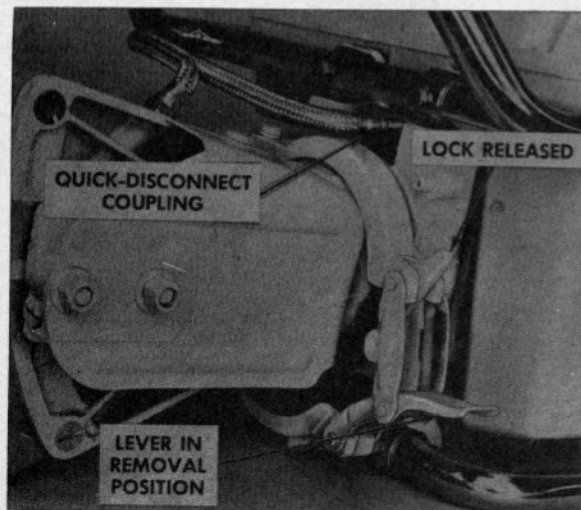
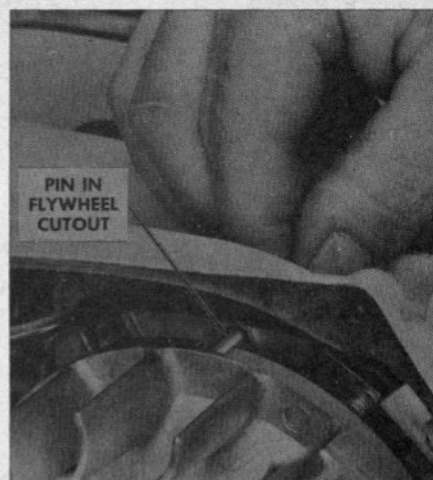
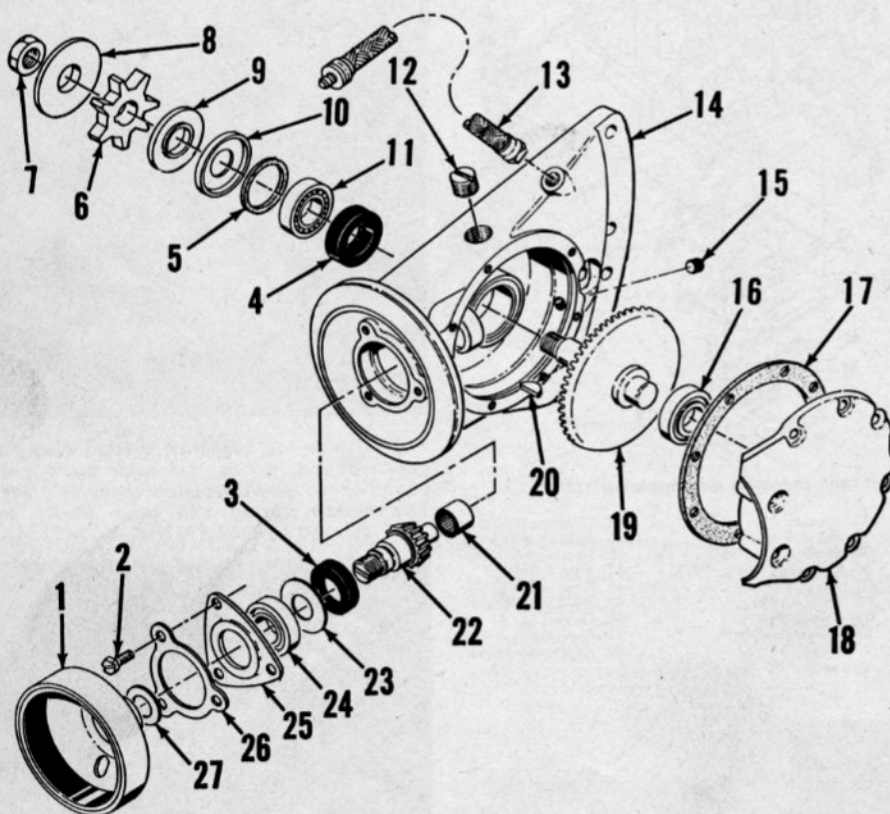

Fig. MC3-14—Removing transmission from power head.
Fig. MC3-15—Flywheel can be locked to remove flywheel or clutch retaining nut by inserting pin through hole in crankcase cover into cutout in flywheel.
Fig. MC3-19—Exploded view of transmission unit.
CLUTCH. The clutch unit is accessible after removing the transmission as shown in Fig. MC3-14. Refer to Fig. MC3-16 for exploded view of clutch assembly. Renew the clutch shoes in sets of four only. To remove the clutch retaining nut, lock the engine flywheel as shown in Fig. MC3-15; turn nut in direction indicated by arrow stamped into clutch rotor. Refer to Figs. MC3-16 and MC3-17 for suggested method of installing shoes and retaining spring on clutch rotor.
TRANSMISSION. Refer to exploded view of transmission (gear case assembly) in Fig. MC3-19.
To disassemble transmission unit, remove from engine as shown in Fig. MC3-14, refer to exploded view in Fig. MC3-19 and proceed as follows: Remove oil filler plug (12) and drain all oil from gear case. Remove the three pinion retaining screws (2) by turning clutch drum (1) to gain access to screws through hole in drum. Remove the cover (18) retaining screws. Place gear case in oven, cover side up, and heat to